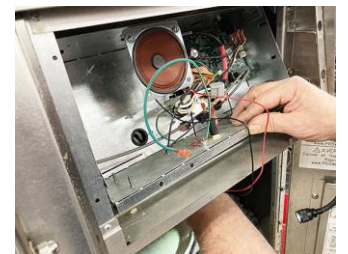

Figure 59
60. Move the component box back up into position but **DO NOT REATTACH** at this point (see Figure 59).